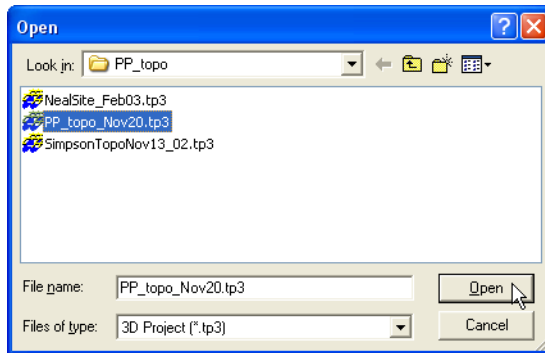

Figure 1-12. Select File to Open
2. On the **Open** dialog box, navigate to the location of the file, select the file type, select the desired file, and press **Open** (Figure 1-12).